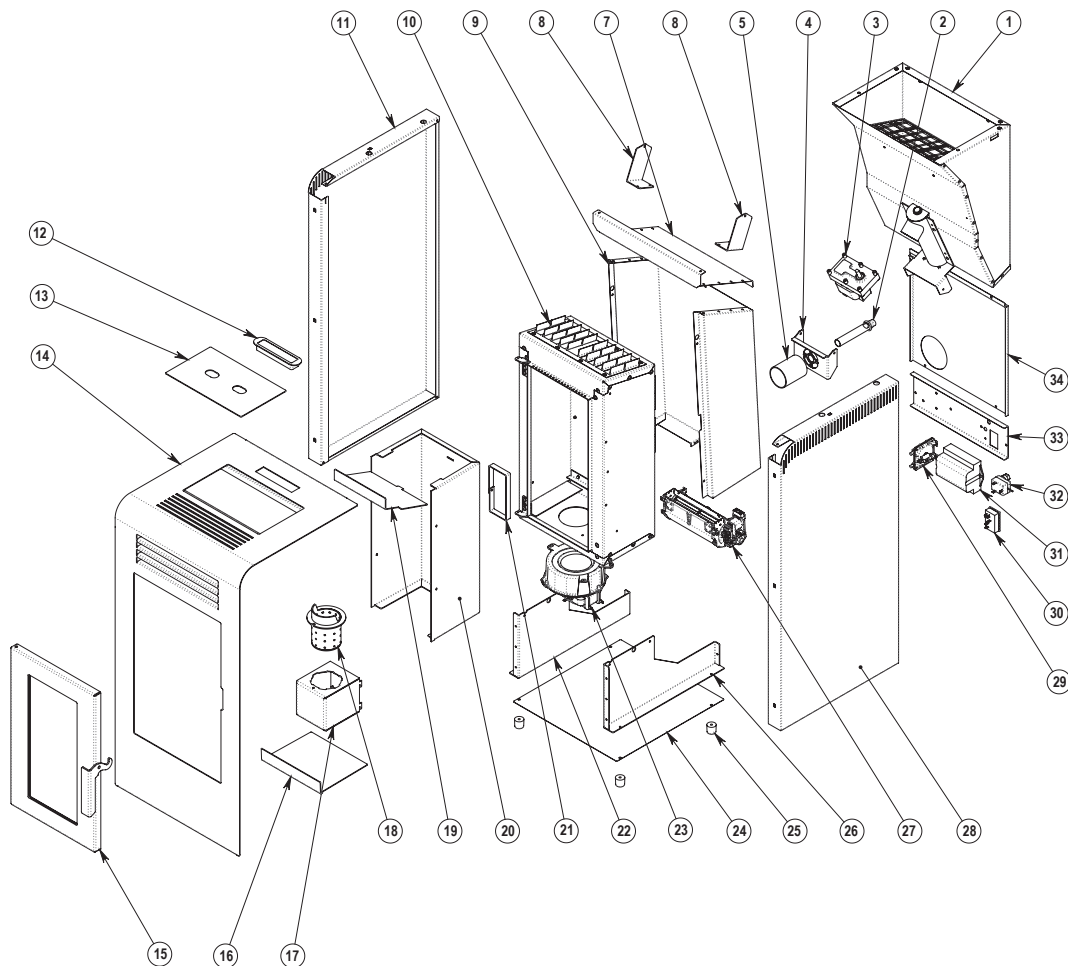

Figure 1
11. Make sure the stove has the correct air/fuel ratio at each of the five combustion levels by checking the flame pattern at each one. See figure 1. Adjust the air/fuel ratio if necessary. Only a Qlima service technician may set the air/fuel ration.